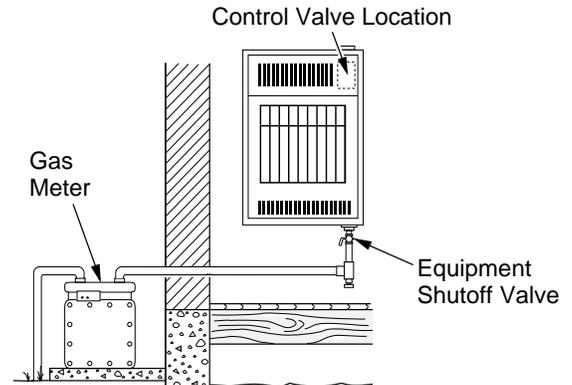

Figure 15 - Checking Gas Joints for Natural Gas
3. Check all joints from gas meter for natural or propane/LP supply to equipment shutoff valve (see Figure 15 or 16). Apply a noncorrosive leak detection fluid to all joints. Bubbles forming show a leak.
4. Check all joints from equipment shutoff valve to control valve (see Figures 15 and 16). Apply a noncorrosive leak detection fluid to all joints. Bubbles forming show a leak.